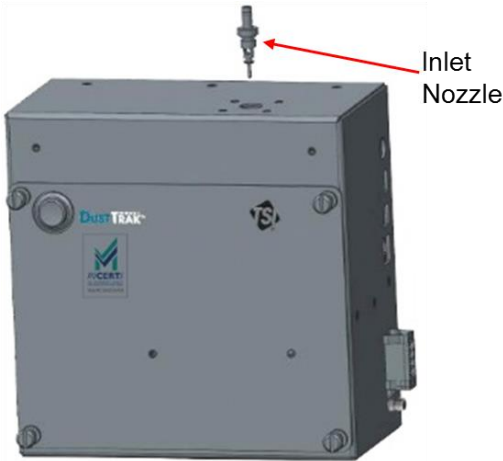

Figure 17: Unscrew Inlet Nozzle
3. Unscrew the black inlet nozzle from the instrument (Figure 17).